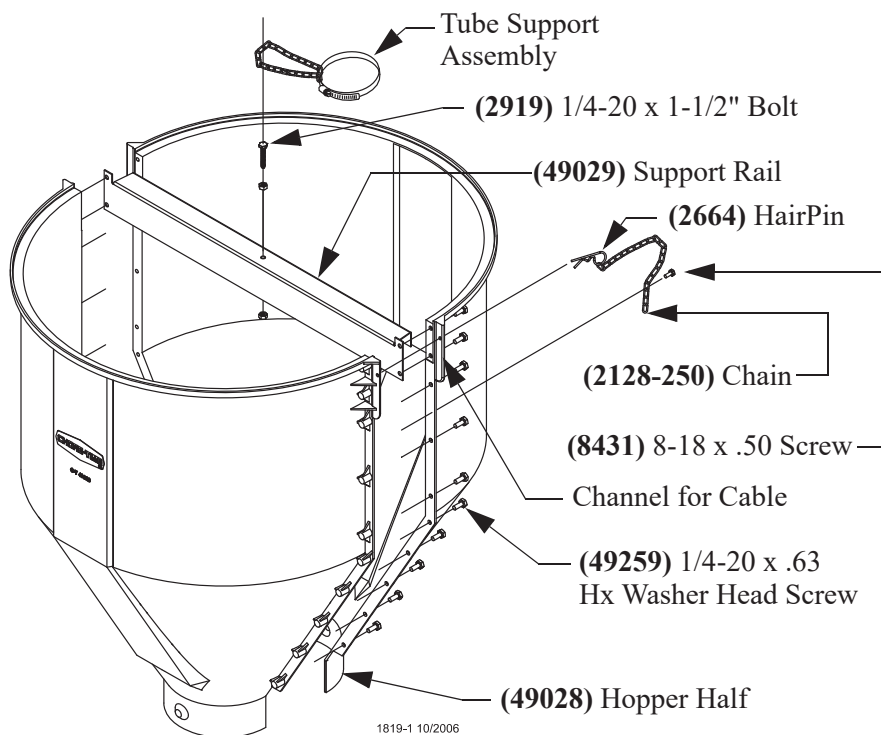

Figure 21. Hopper Assembly
1. Assemble the 1/4-20 x 1-1/2" bolt to the brace with two 1/4-20 nuts. One nut should be assembled under the brace with the other on top. This bolt is to provide a place for the tube support assembly chain to be hooked, see figure 21.
2. Assemble the 150 lb. hopper halves and brace as shown in Figure 21., using #14 x 5/8" screws (supplied in hardware package).
3. Assemble the #8 x 1/2" screws and chain as shown in Figure 21.